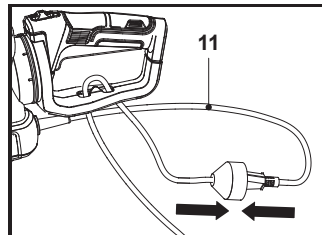

Fig. 4
3. Connect the power cord (10) to the socket of the extension cord (Fig. 4).